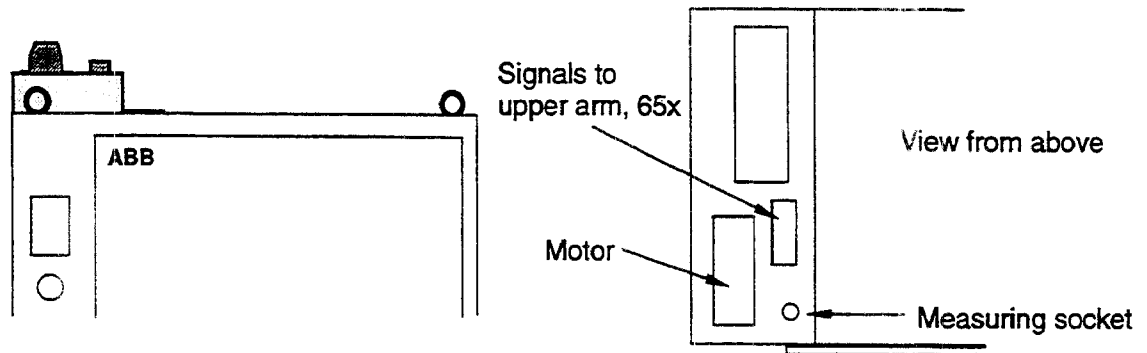

Figure 35 Cable connections on the roof of the cabinet.
- 122 Cable connections on roof (see Figure 35).